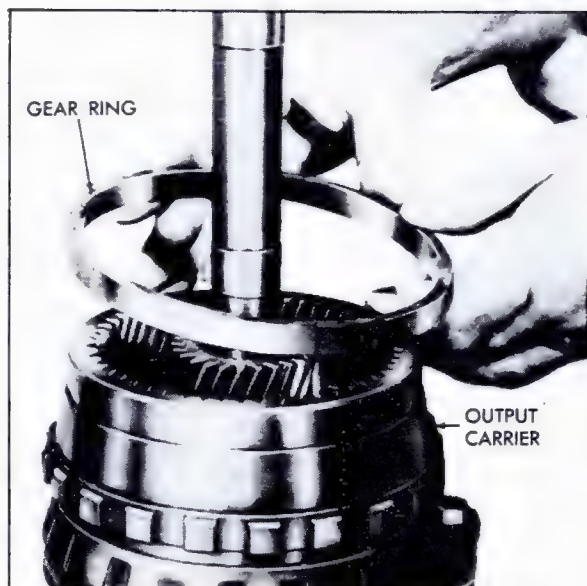

Fig. 7-177 Removing Front Internal Gear Ring
e. Remove front internal gear ring from output carrier assembly, Fig. 7-177.